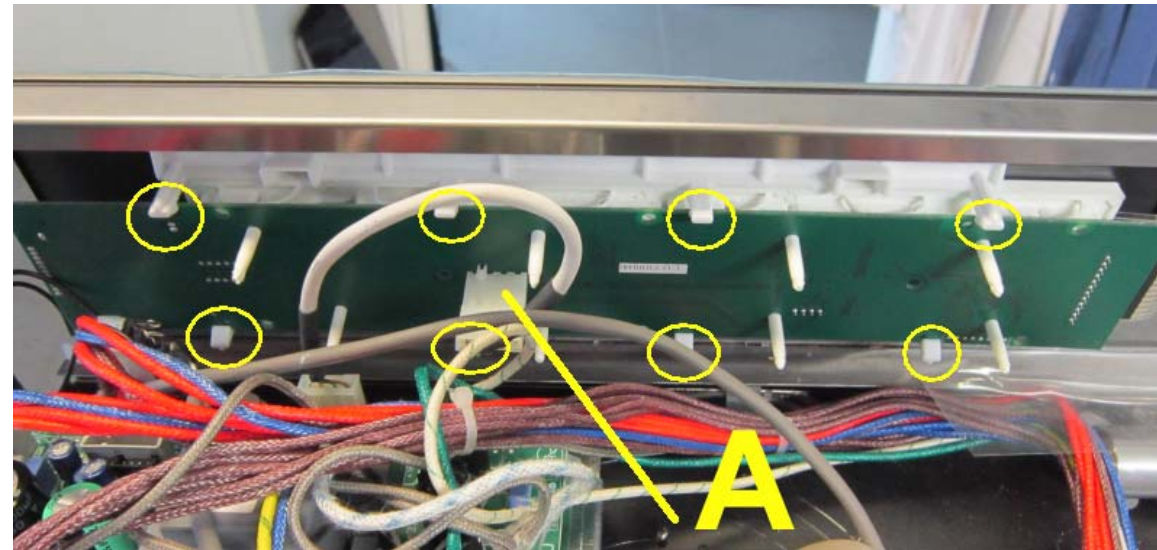

Fig.1
3. Unhook the eight plastic spacers to remove display board. (fig.1).